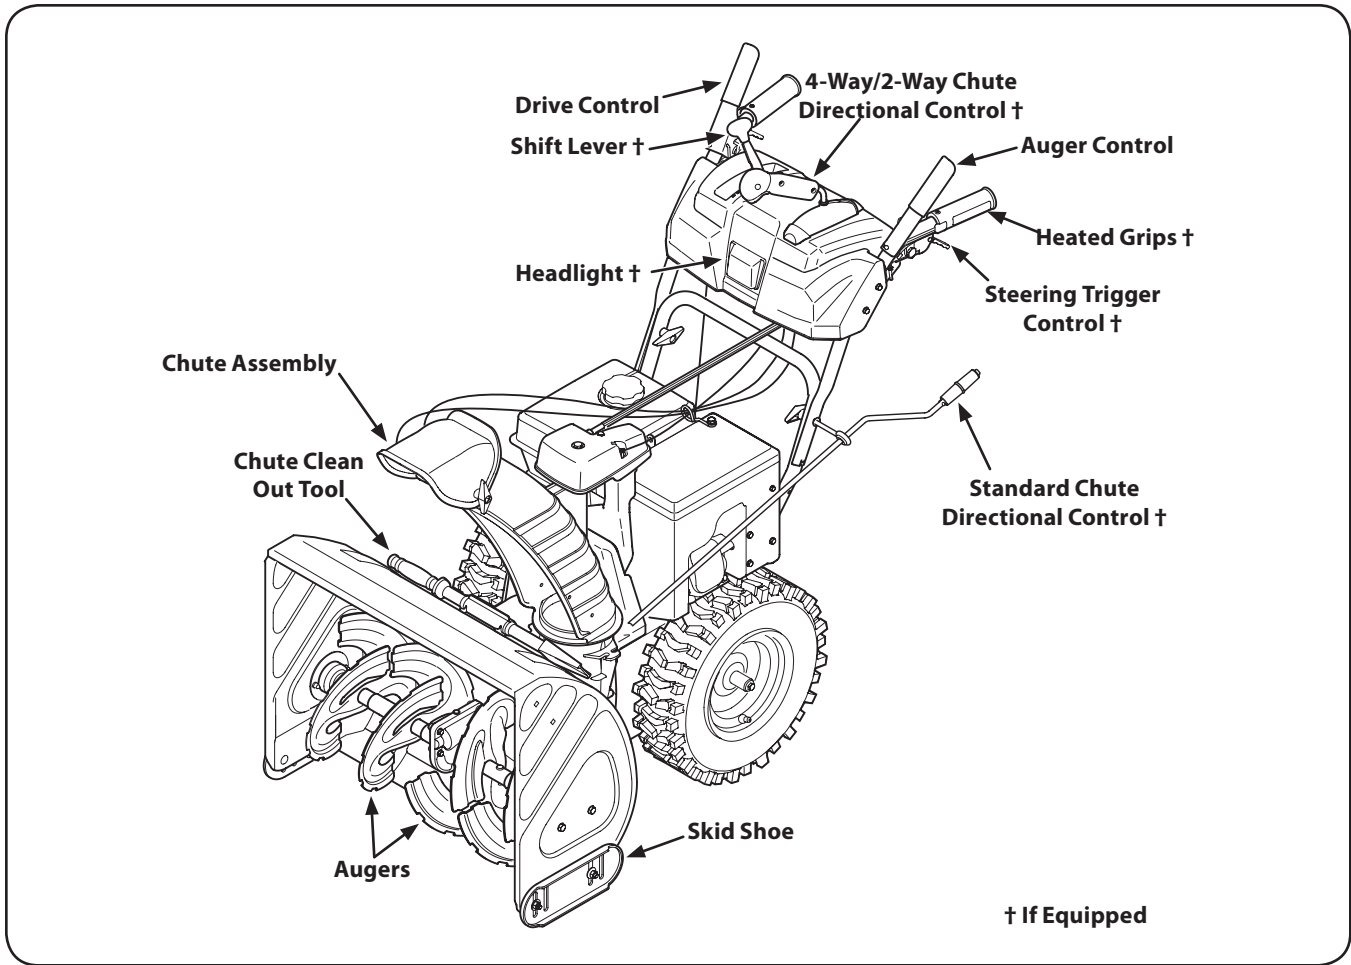

Figure 4-1
**NOTE:** The upper chute on models 2840 and 3090XP is also controlled by the 4-way Chute Directional Control. See Fig. 4-1.
Snow thrower controls and features are described below and illustrated in Fig. 4-1.